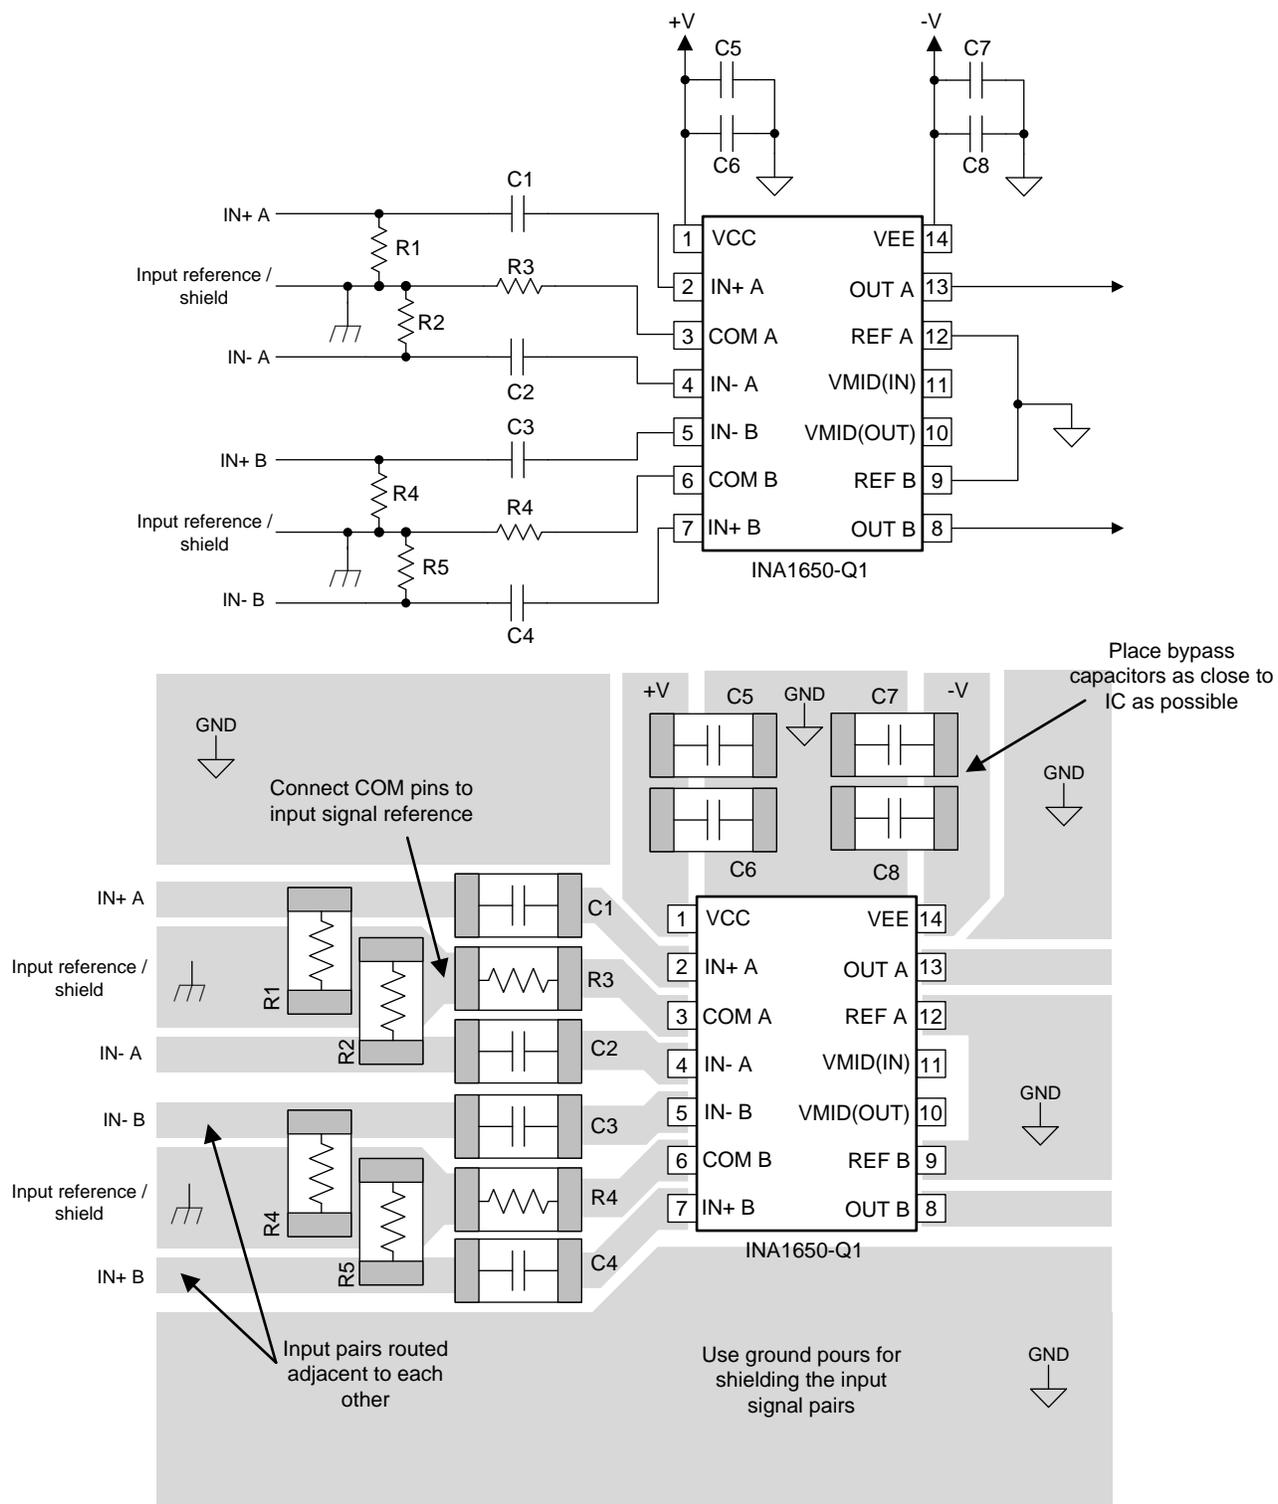

Figure 62. Layout Example for a Dual-Supply Line Receiver
- Place the external components as close to the device as possible, as shown in Figure 62 and Figure 63.